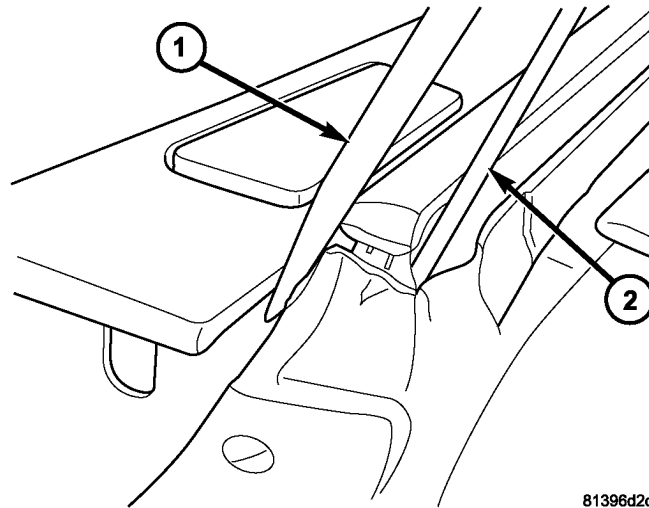

Fig. 2 HOLD WEATHER SEAL AWAY FROM DOOR
2. At the upper vertical edge of the door weather seal where the seal meets the horizontal surface at the rear of the door, place a fiber stick (or other non-marring tool) behind the weather strip and push weather strip away from door frame (Fig. 2).